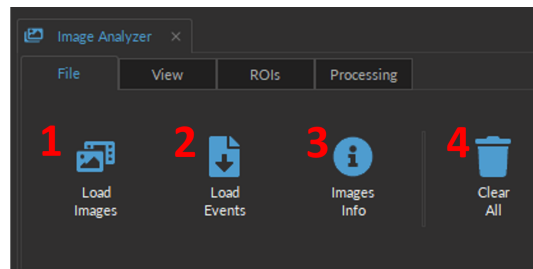

Figure 13.3: File Tab
The **File tab** (Fig. 13.3) is used to load data, obtain information about data, and clear the **Analyzer View**.
1. The **Load Images** button (Fig. 13.3, 1) loads the images. They must be saved in a .doric file format containing images in a square, 16 bits format.
2. The **Load Events** button (Fig. 13.3, 2) displays **Keypress Events** from a .doric file over the signals in **ROIs View**.
3. The **Images Info** (Fig. 13.3, 3) displays a window with information about the images (Width x Height, Bits Count, Timestamp, Sensor ID, LED power, Exposure, and the Gain).
4. The **Clear All** button (Fig. 13.3, 4) closes the **Analyzer View** and the analysis in progress.